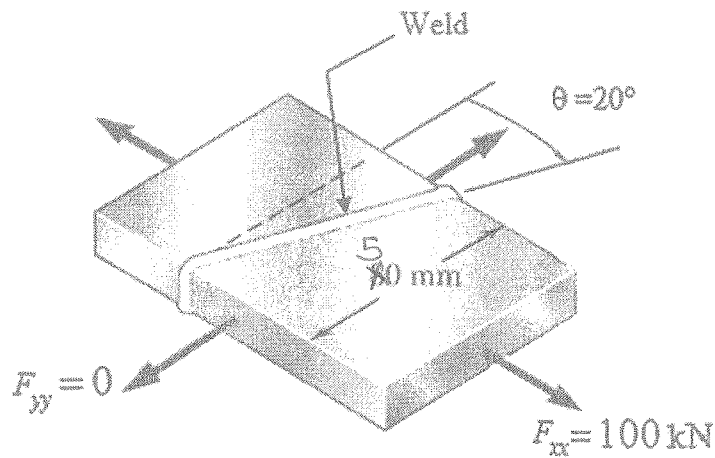

Fig. Q3
- Q3. Two steel plates of uniform cross section 10 x 50 mm are welded together and applied a centric tensile force of magnitude 100 kN to the welded plates in the x direction as shown in Fig. Q3. The weld is applied between two steel plates at 20° angle clockwise from the y direction.